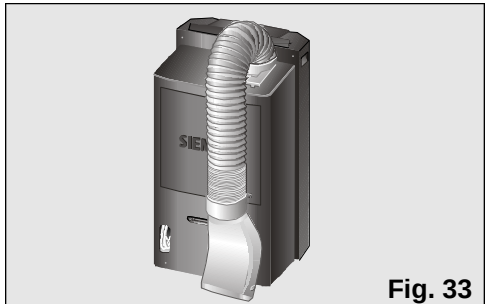

Fig. 33
- ☐ To do this, bend the tube towards the back of the appliance and secure it with the diffusion hook, Figs. 33 and 34.